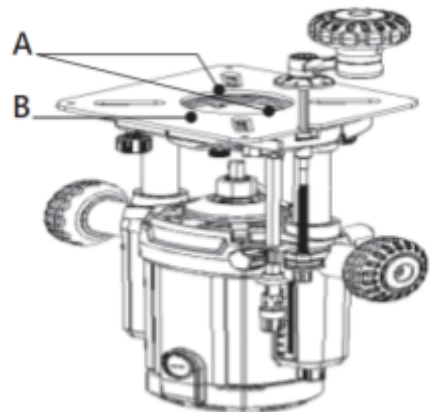

Figure 4
- A. Turn the router upside down. (Fig. 4)